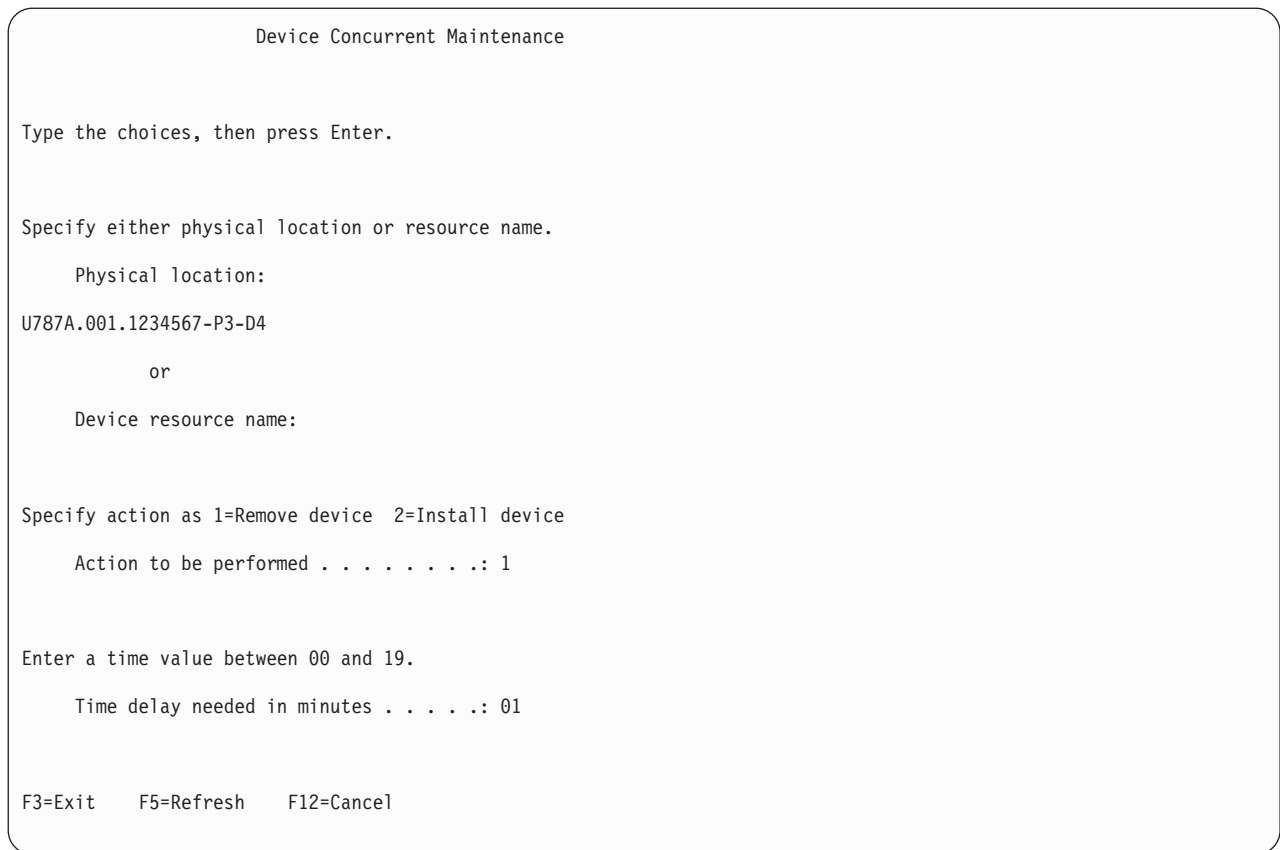

Figure 30. Example Device Concurrent Maintenance display
12. If the physical location does not appear in the Device Concurrent Maintenance display, type the physical location where you are replacing the disk drive as shown in the preceding example, Figure 30.